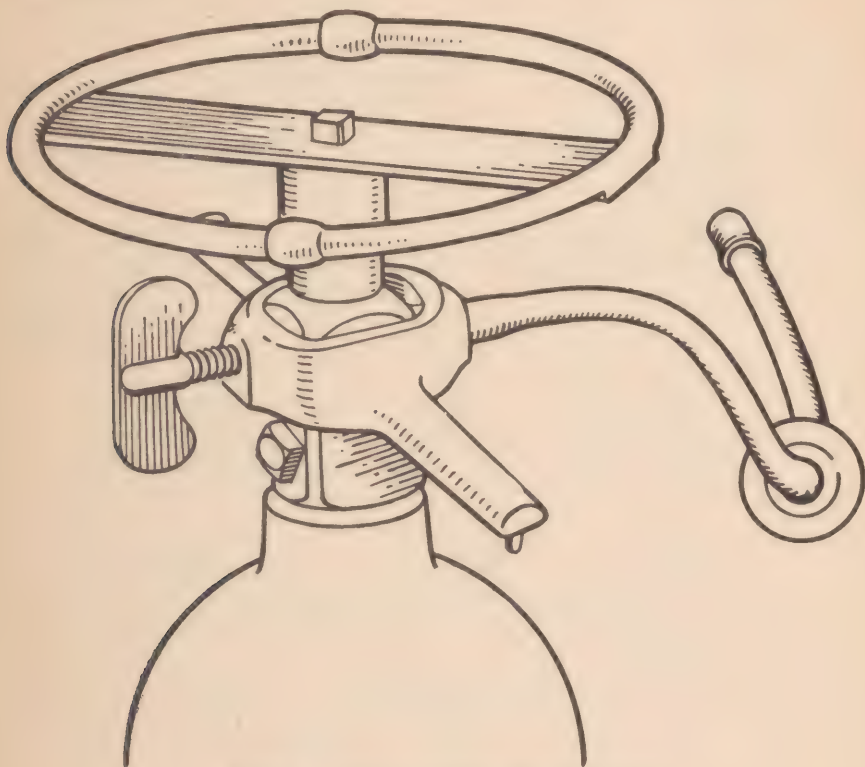

Figure 4. Oxygen cylinder yoke connection.
- (2) *To unpack stand.* (a) Open the packing box and pull the inner shell straight up and out.
- b. Assembling.** (1) *To mount oxygen cylinder.* (a) Slip the oxygen yoke over the neck of the cylinder. Place it so the projection where the tube attaches to the yoke fits into the outlet hole of the oxygen cylinder (fig. 4). There should be a washer at this connection.